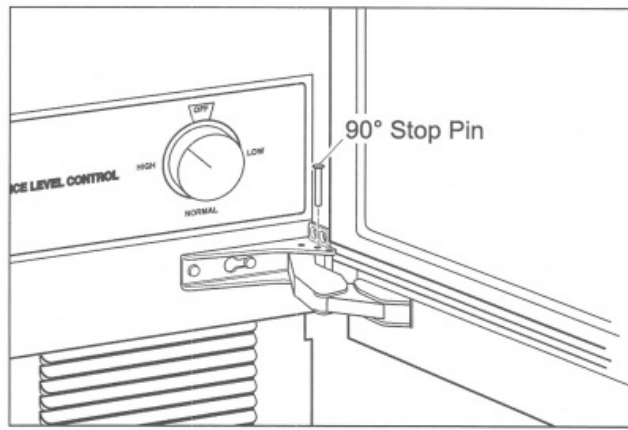

Figure 2-10. 90° Door Stop Pin at Bottom Hinge
2. Insert the 90 stop pin down through the holes in the bottom hinge bracket. (See Figure 2-10)